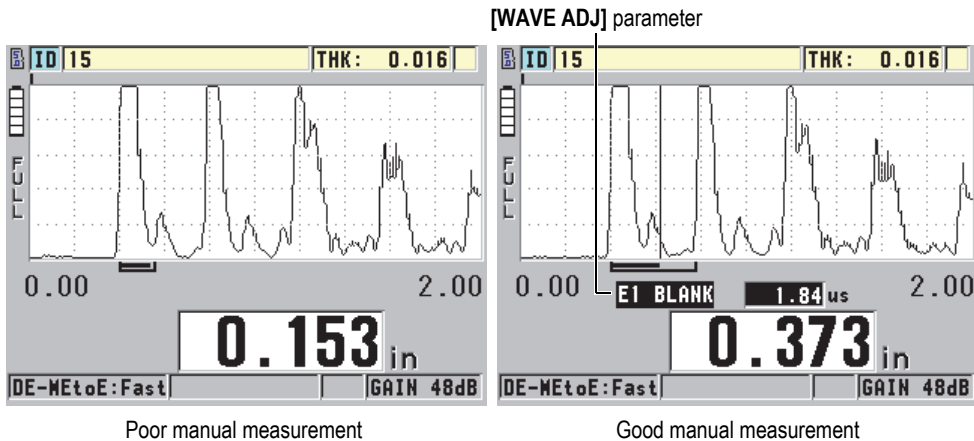

Figure 6-5 Comparing manual measurements
- The wave adjustment parameter appears (see Figure 6-5 on page 84).